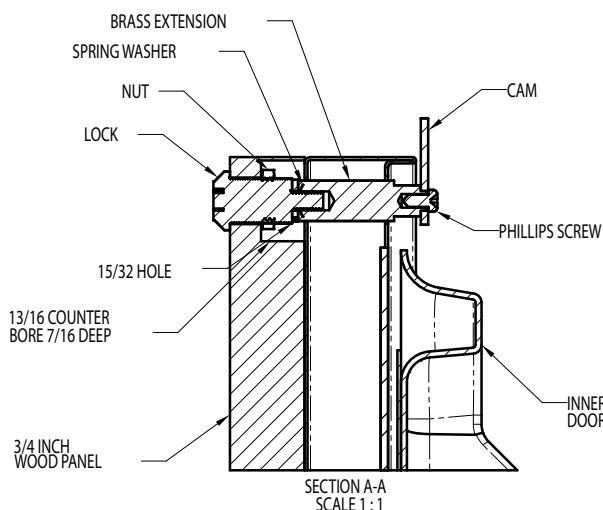

Figure 9
Locate and mark with a pencil the location of the lock hole on the overlay panel, this is the hole in the top corner of the handle side of the door. Remove the clamp and remove the overlay panel from the door. On the backside of the panel where you marked the lock location drill a $\frac{13}{16}$ " (20.5mm) diameter counter bore $\frac{7}{16}$ " (11.0mm) deep into the overlay panel. Drill a $\frac{15}{32}$ " (12.0mm) diameter hole through the overlay panel centered on the counter bore being careful not to splinter the wood on the face side of the panel. (See Figure 9).
Two (2) lock extensions are supplied with the lock. Use the longer extension for a $\frac{3}{4}$ " thick overlay panel and the shorter one for a $\frac{5}{8}$ " thick panel. Assemble the lock extension, cam stop washer, spring washer, and set screw to the lock as shown in Figure 9 and 10. Install this assembly into the overlay panel and secure with the retaining nut using a 15mm socket. Make sure the key slot in the lock is vertical.